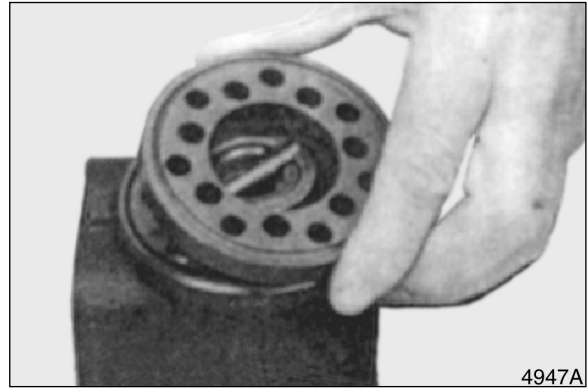

Figure 17
9. Lift middle plate off housing. See Figure 17.